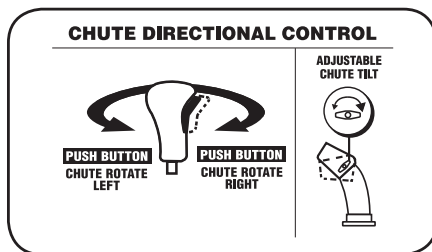

Figure 3-7
- To change direction in which snow is thrown, squeeze button on joystick and pivot joystick to right or to the left. See Figure 3-7.